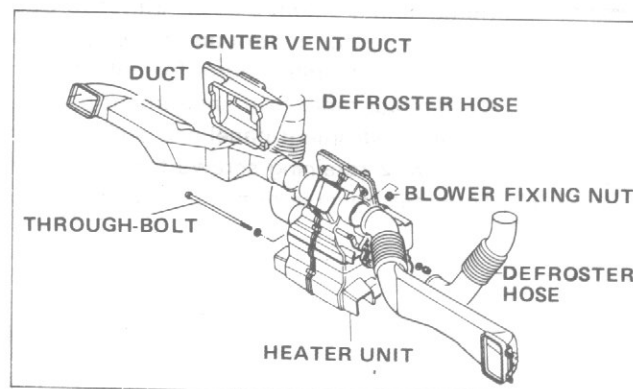

Fig. 2-5 — Heater Assembly Attachments
14. Remove heater unit assembly through-bolt located at the rear and bottom of heater unit assembly. (Fig. 2-5)
15. Remove 4 attaching nuts holding heater unit and blower unit together and remove heater unit assembly. (Fig. 2-5)